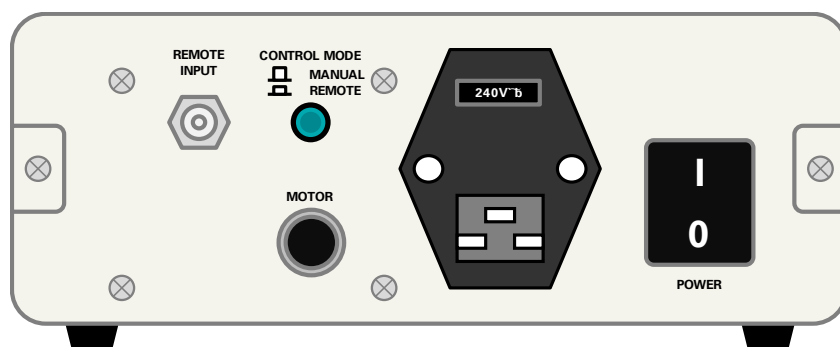
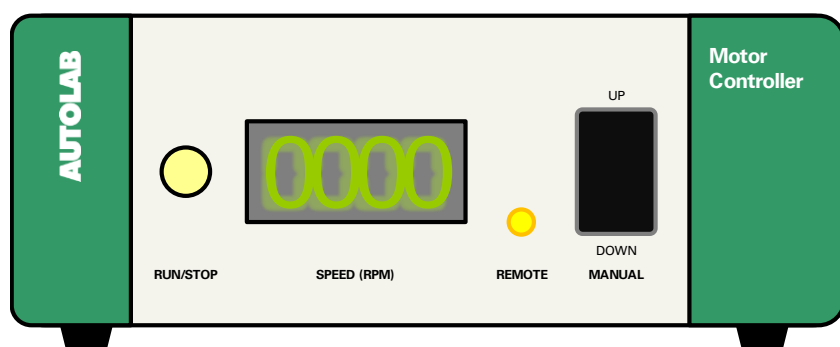

Figure 12 – The rear panel of the Autolab Motor Controller
Figure 13 – The Autolab Motor Controller front panel
The mains power is applied to the unit by operating the mains switch on the rear panel, labeled **POWER** (see Figure 12).
When the unit is powered, the numerical display on the front panel will be illuminated. The **SPEED** display on the front panel should read 0000 ± 4 RPM. The **RUN/STOP** button located on the front panel will blink (see Figure 13).
The RDE-2 and RRDE rotators are fitted with a cable and multipole connector matching the **MOTOR** plug located on the backplane of the Autolab Motor Controller. Connect the cable of the rotator to this plug (see Figure 12).
- With the switch in the **disengaged** position () , the rotator is controlled manually. In this control mode, both the switch itself and the **REMOTE** indicator on the front panel of the Motor Controller are unlit (see Figure 12 and Figure 13). In this mode, the rotation rate can only be controlled manually.
12 and Figure 13). In this mode, the rotation rate can only be controlled remotely.
In order to allow the remote control of the rotator, the 1 m long BNC cable supplied with the Motor Controller must be connected to the female BNC plug located on the back plane of the Motor Controller (see Figure 12).